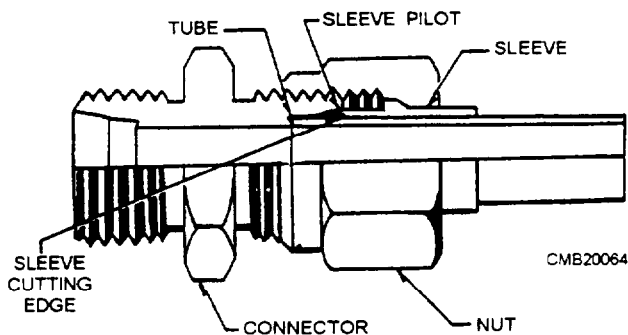

Figure 3-42.—Flareless-tube connector.
**FLARELESS-TUBE CONNECTORS.**—The flareless-tube connector eliminates all tube flaring, yet provides a safe, strong, and dependable tube connection. This connector consists of a fitting, a sleeve or ferrule, and a nut (fig. 3-42).